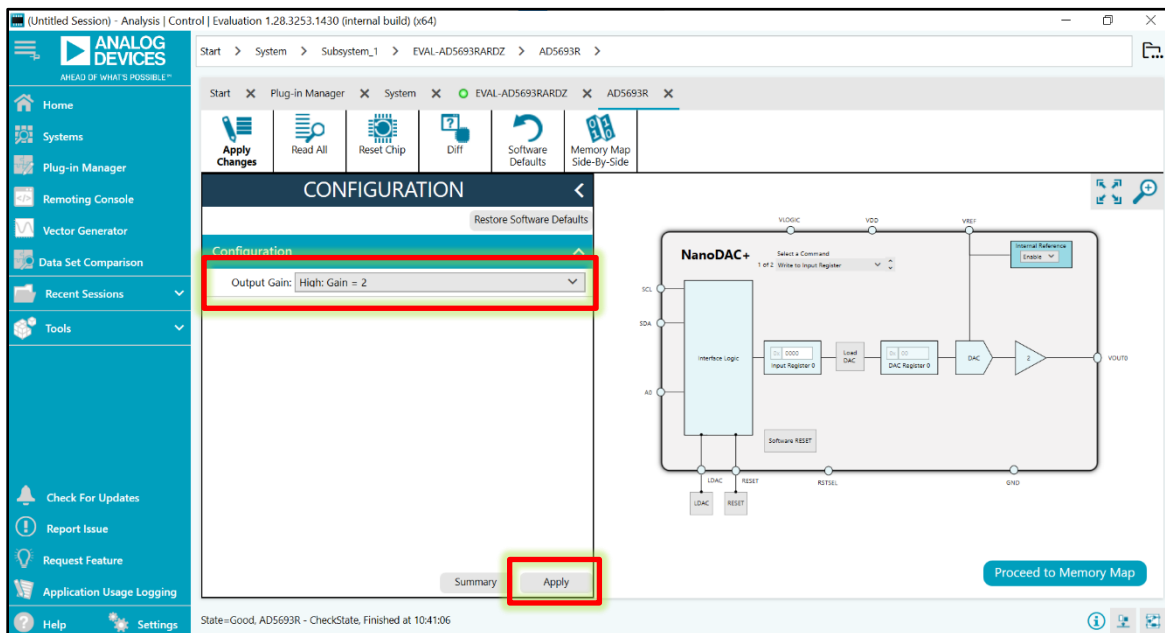
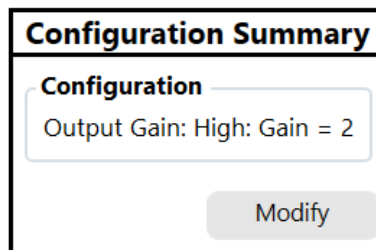

Figure 18
Figure 19
- The display window will transition to Figure 18. In the "Configuration" section, choose "High Gain = 2" for the "Output Gain" setting. Click on the "Apply" button. Once applied, the Configuration window should resemble Figure 19.